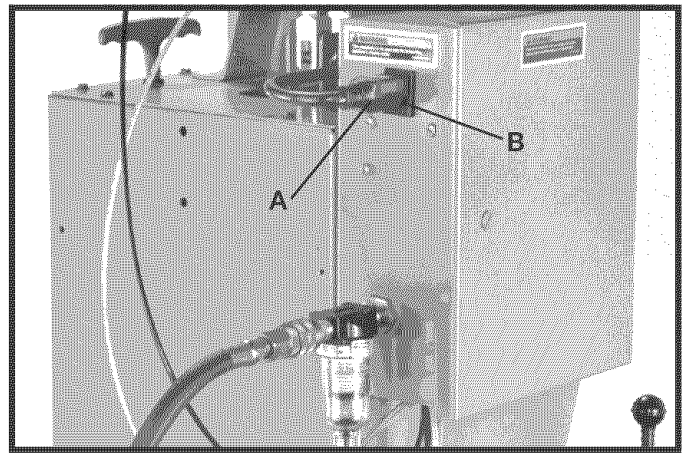

Fig. 46
1. Plug the motor cord (A) Fig. 46, into outlet (B) located on rear of the air and electric control box as shown.
CAUTION DO NOT USE THIS RECEPTACLE OUTLET (B) FIG. 46, FOR ANY OTHER ELECTRICAL USE OTHER THAN THE UNIT MOTOR.